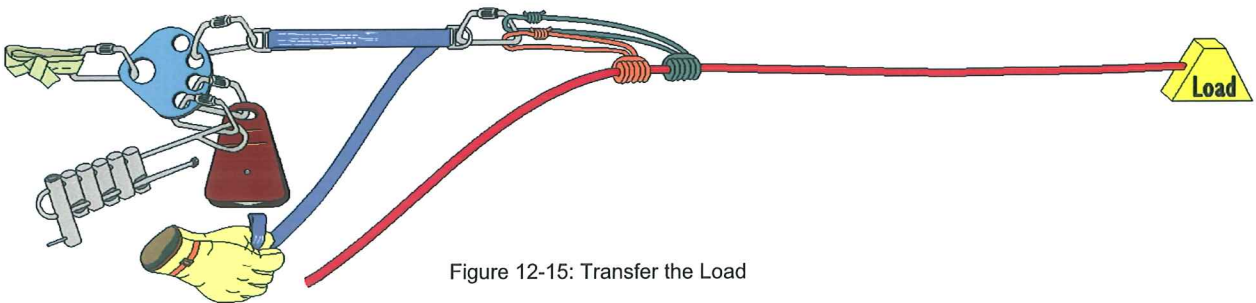

Figure 12-15: Transfer the Load
- Transfer the load from the belay/safety line to the main line according to manufacturer's instructions. (Figure 12-15)